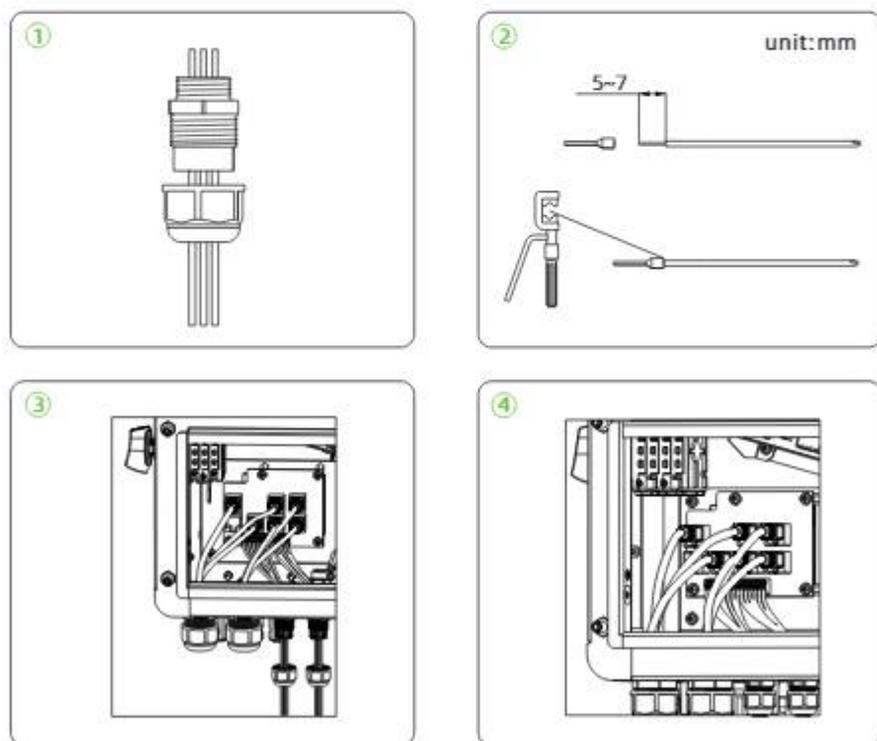

Fig 6.18 Signal terminal connections
3. Pass the cable through the PG header and snap it into the corresponding terminal holes of the veneer as shown in Fig 6.18.